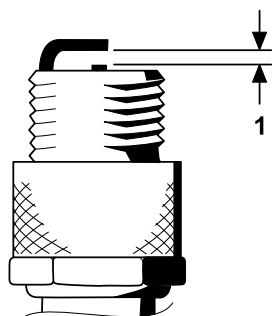

Figure 31
- Set the air gap between the center and side of the electrodes at 0.76 mm (0.030 inches) as shown in Figure 31.